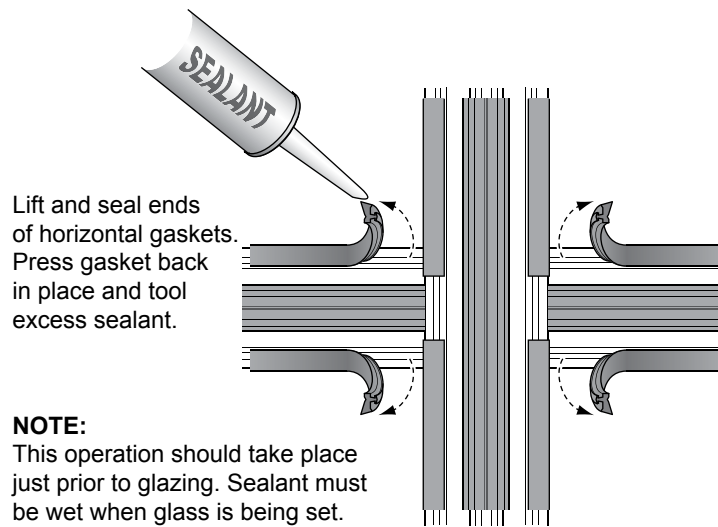

Fig. 44.1
- A. Pull interior horizontal gaskets away from vertical gaskets and seal corners where gaskets abut. Release horizontal gasket back to its original position. See **Fig. 44.1**.